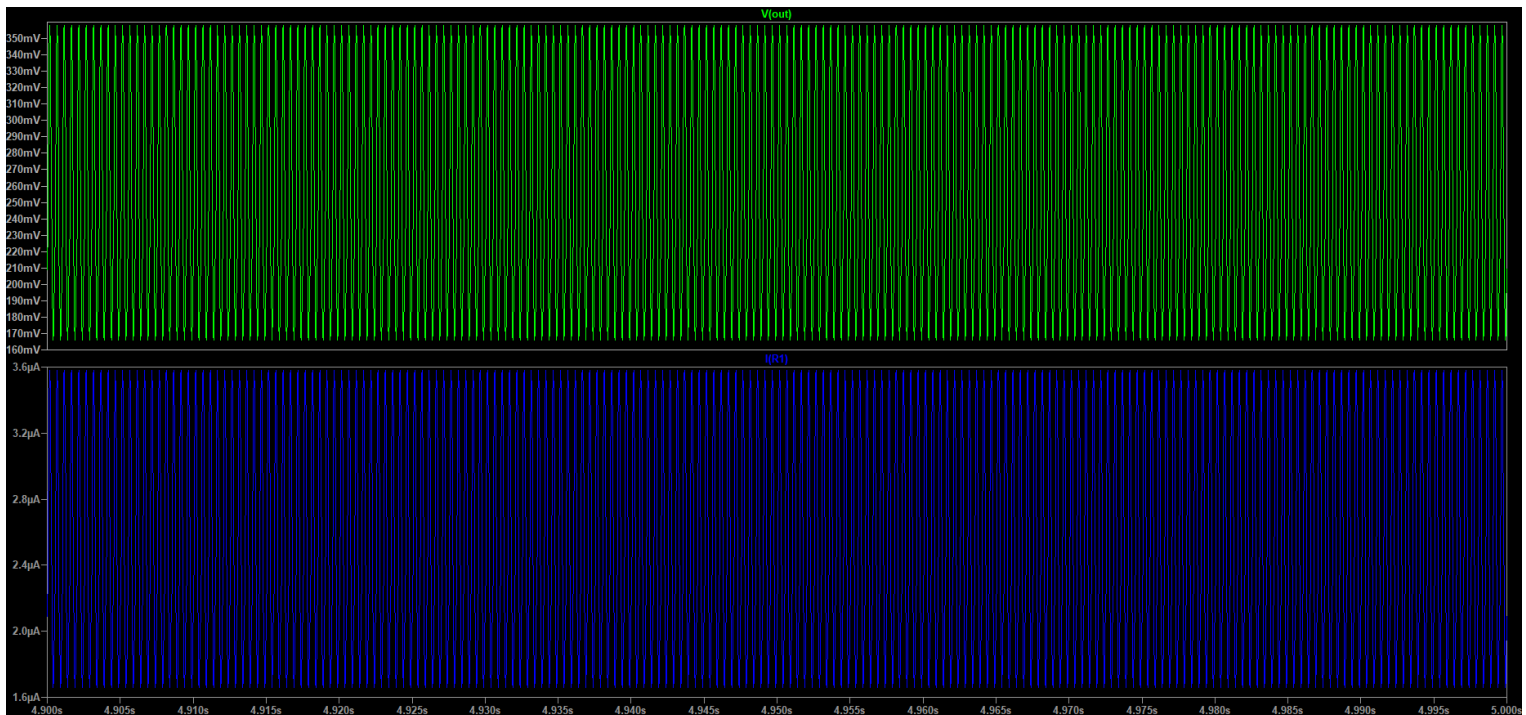

Figure 19: Output of Step 1 With Load
- The figure 19 shows the output with load. Changing half-wave to full-wave makes the ripples at the output less without load but as you can see from the figure it is not enough to stabilize the output when the load resistor exists. In that case the uncharging time of capacitors should be extended. The next step of the improvements includes this because we would like to have an stable output with load too.